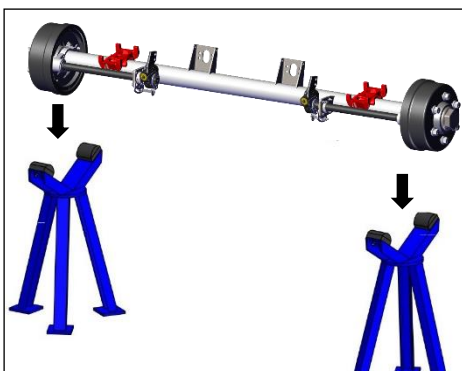

Fig 7a
7. Axle can be welded in place or put on a support frame for inverted welding as seen in Fig 7a + 7b + 7c.